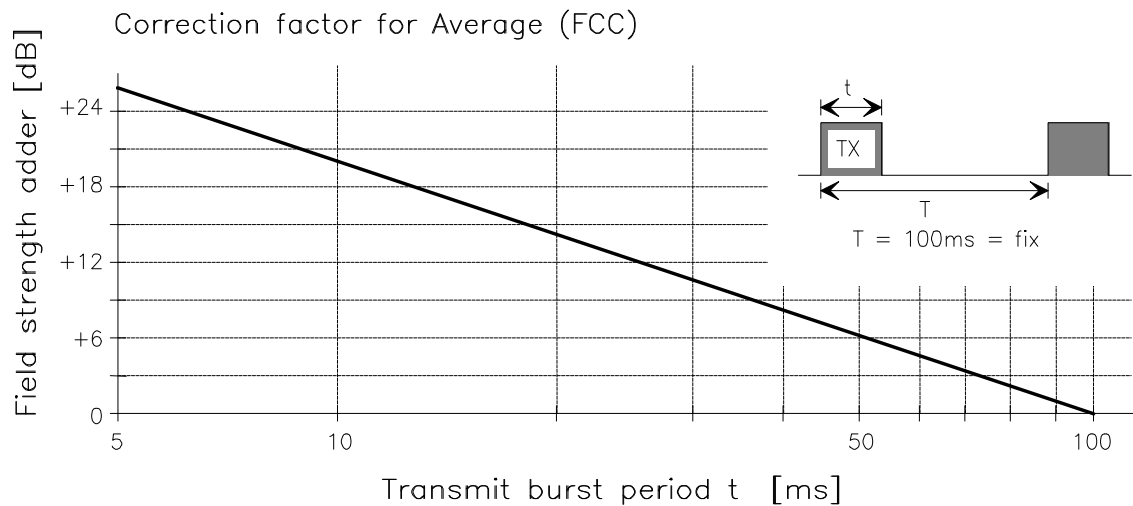

Figure 37: Field Strength Level Correction Factor Using Average Detector
TIRIS operates with intermittent power. TIRIS peak radiation may exceed nominal values depending on the signal measurement method (CISPR or average). For applications of the correction factors, see figures 37 and 38. These correction factors have to be added to the values given in the above table. (See also ETSI Final Draft Sept. 1994 I-ETS 300 330 item 6.7 "Pulse modulated signal below 135 kHz").